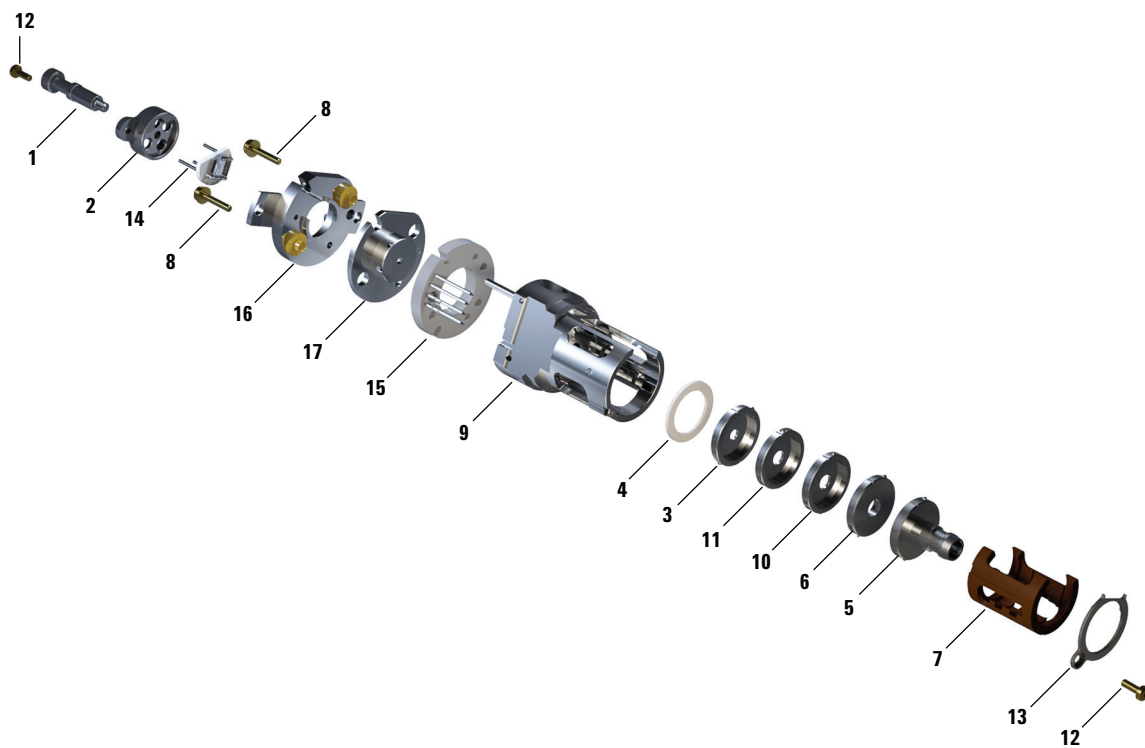

Figure 52 Assembling the EI HES
Refer to the exploded parts view Figure 52 and the EI HES parts list Table 18 on page 163 while using this procedure.
- 3 Insert the lens stack encased in the insulator into the source body. (See Figure 52 on page 163.) The engraved numbers face the full opening extending to the end of the source body. Verify that the ceramic is sitting flush at the end of the source body.
**Table 18 Parts list for EI HES (Figure 52)**
**Table 18** Parts list for EI HES (Figure 52) (continued)